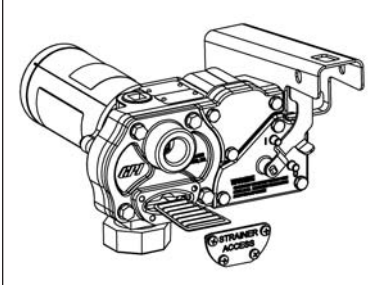

Figure 3
3. Remove the inlet strainer and inspect for damage or clogs. (Figure 3)